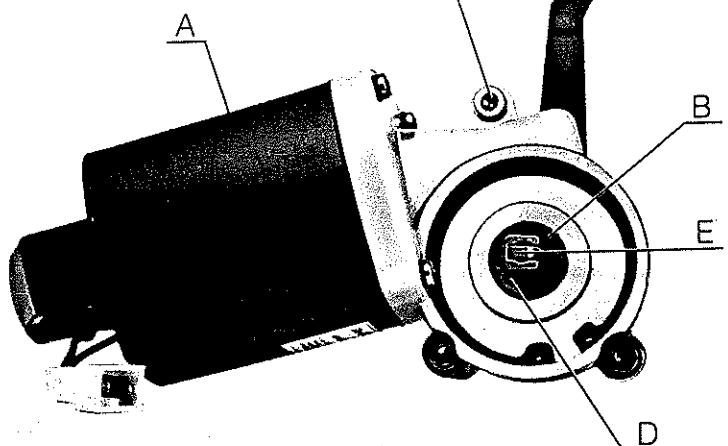

Fig. 37 – Sostituzione motoriduttore e albero di carica
10.5.4. Geared motor and charging shaft (fig. 37)
- Disconnect the electrical connections of the geared motor (A).
- Loosen the three screws (C) that fix the geared motor (A) to the plate and remove the geared motor.
- Remove the stop ring (D) and axially push the shaft (B) towards the inside, by pressing on the retracting key (E).